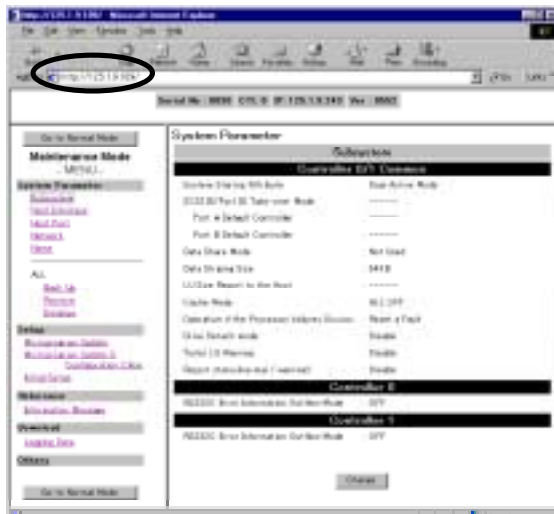

Figure 5.2 WEB Screen (1)
2. Please input the IP Address of the Controller where was connected with the LAN cable to [Address] of the WEB browser. Please input the IP Address of one Controller as the dual system configuration. The network parameters of both controllers can be set up from one Controller. (see figure 5.2)